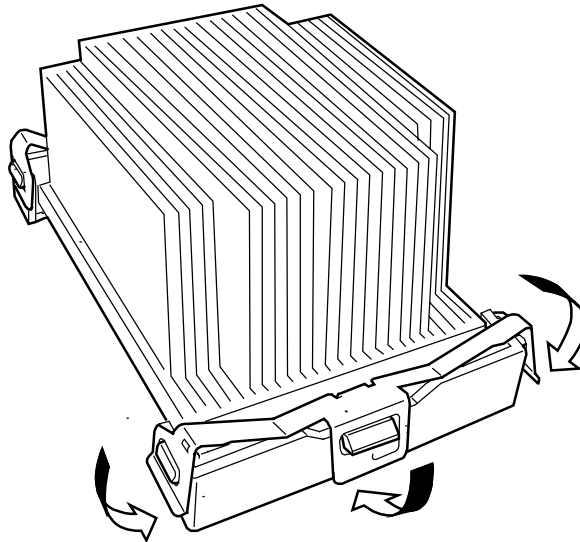

Figure 4-17. Installing the Heat Sink and Clips
- Place the heat sink clip on the center tab of the retention module and rotate the clip towards the heat sink to engage the center tab. Repeat this step with the second clip. See Figure 4-17.
- While ensuring the heat sink is level and secure with one hand, snap one end of the clip down over the corresponding tab on the retention module. Then snap the opposite corner clip. Snap the remaining end of the clips down over the corresponding tabs. Be sure the clip is adequately engaged with the tab. Ensure the heat sink is absolutely level. See Figure 4-17.